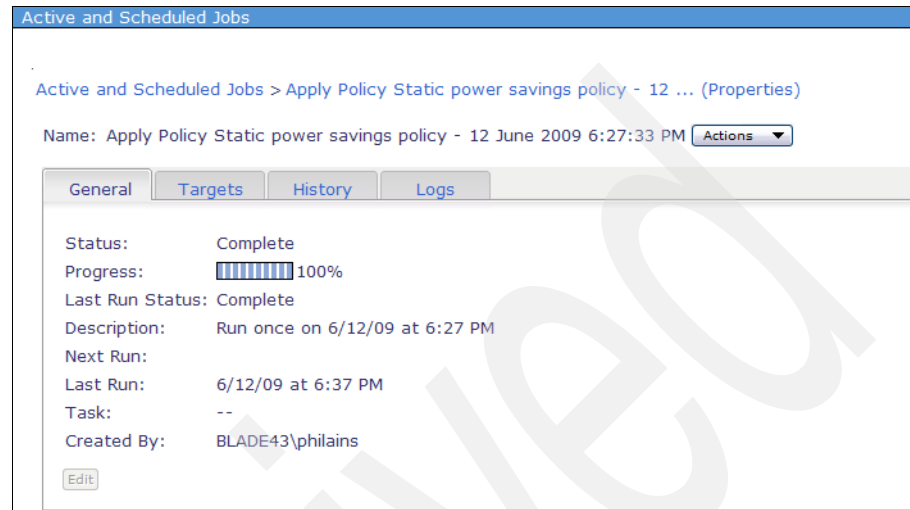

Figure 7-61 Applying a policy - 9
- b. In the display shown in Figure 7-61, the General tab shows the overall status of the apply or remove task, including scheduling info (for instance if it is a reoccurring scheduled job).